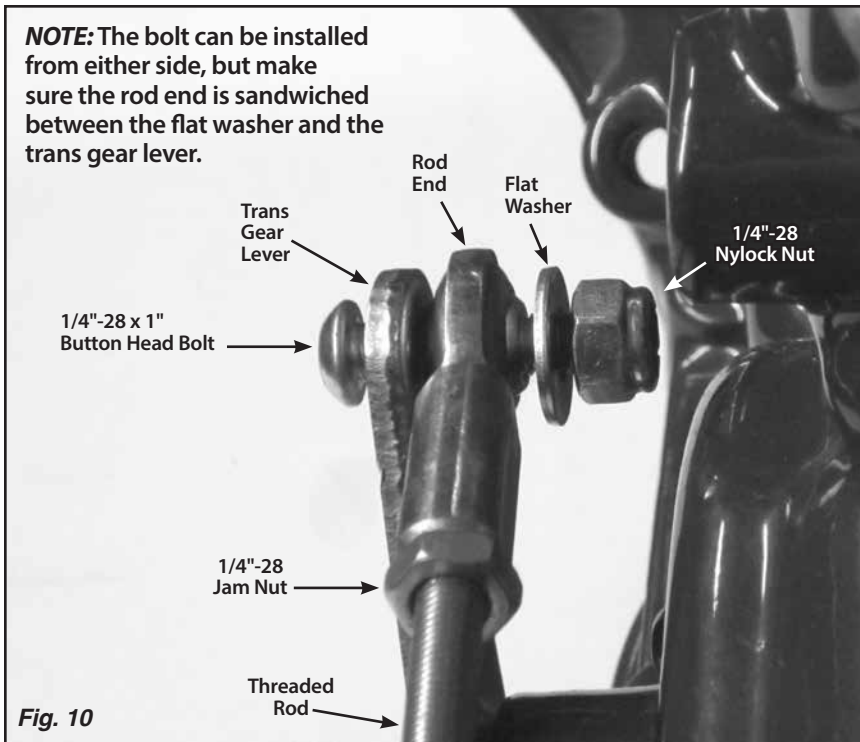

Fig. 10
Step 14: Verify that both 1/4"-28 jam nuts are on the threaded rod, and install a rod end onto each end of the threaded rod. Attach the threaded rod assembly to the **inside** of the trans gear lever and to the **outside** of the quad lever using the 1/4"-28 x 1" button head bolts, flat washers, and nylock nuts as shown in Fig. 9 and Fig. 10. The button head bolts can be installed from either direction, but make sure the rod end is sandwiched between the flat washer and the trans gear lever or quad lever.